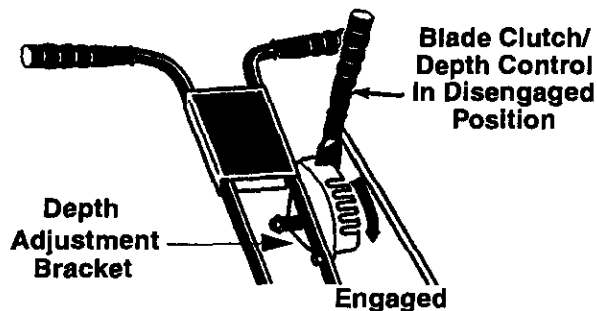

Figure 2
To disengage the blade, move the control lever to the left and pull it back to the top notch in the depth adjustment bracket. See Figure 2. This position takes tension off the drive belt and disallows the blade from turning. To engage the blade, move the control lever forward into any of the other notches to engage the drive belt and start the blade turning. The further forward the control lever is moved, the deeper or lower the blade will cut into the ground.
2. Move the blade clutch/depth control handle back as far as it will go, and place it in the last notch. See Figure 2.